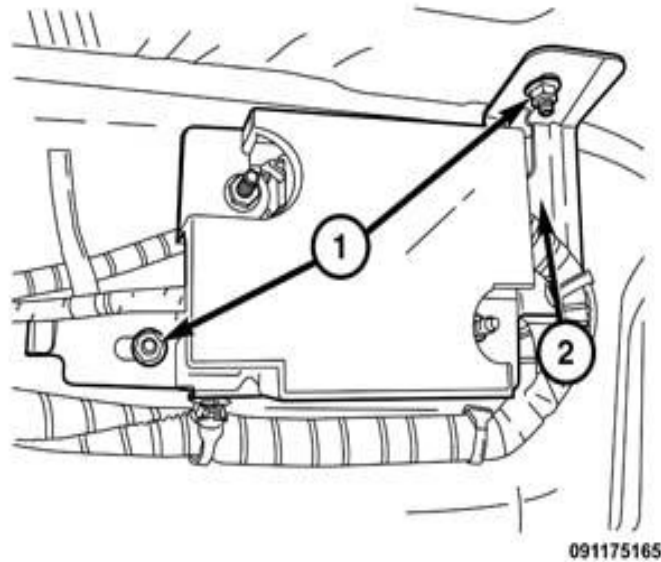

Fig. 17 Mounting Bracket
30. Remove the nuts (1) and the module mounting bracket (2) (Fig. 17).